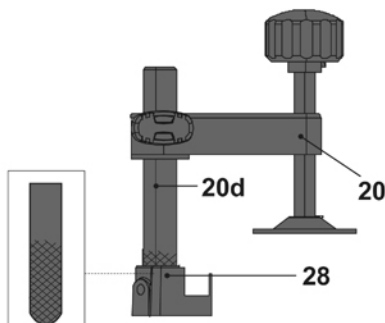

Fig. 4
The workpiece clamp (20) is pre-assembled (Fig. 4). Insert the height adjustment pillar (20d) into the workpiece clamp holder (28) on either side of the base if necessary.